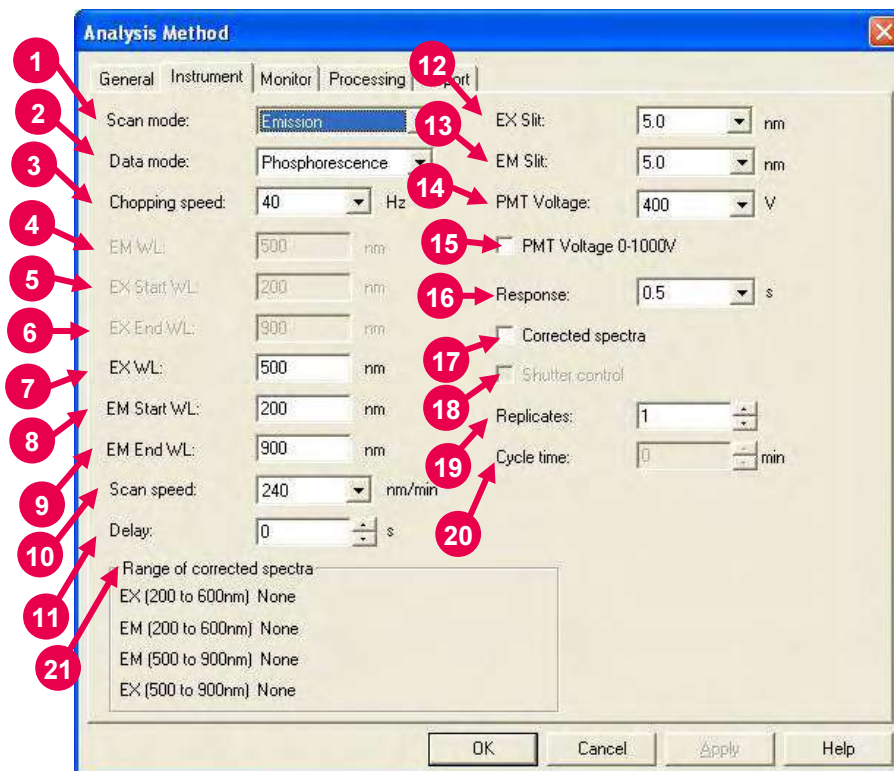

Fig. 2-4 Instrument Tab
2.2.2 Instrument Tab When you click the Instrument tab, the window in Fig. 2-4 appears. For the settable range of each parameter, refer to Appendix G.